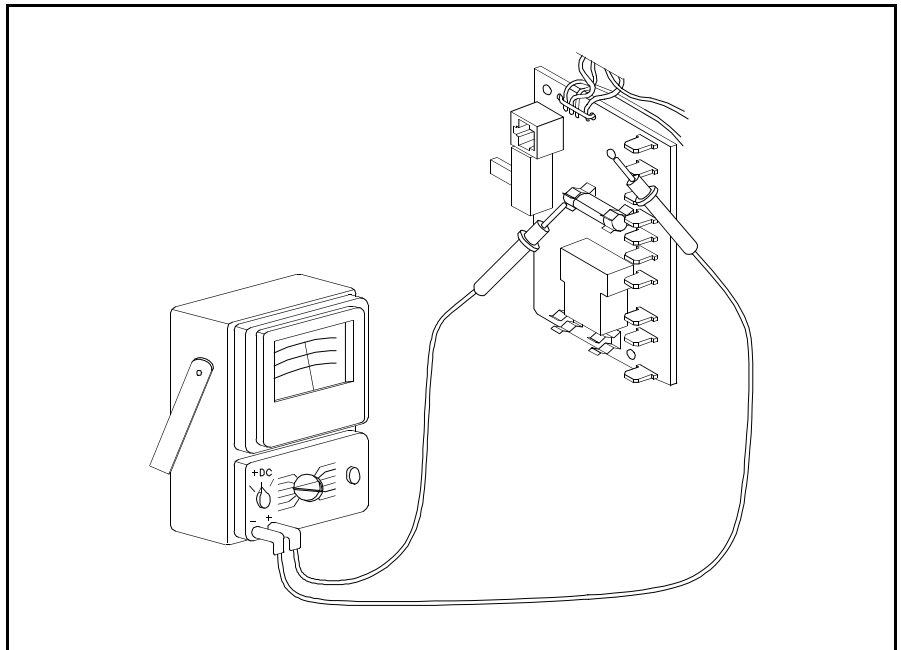

Figure 5.24 3 Amp Fuse Check
6. Check for 12 volts DC at the 3 amp fuse as shown in Figure 5.24.